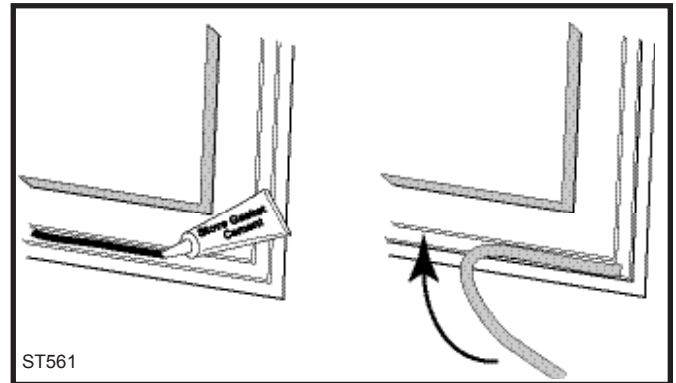

Fig. 34 Lay a bead of gasket cement then press gasket in place.
3. Determine the correct length of the appropriate-sized gasket by laying it out in the channel. Allow an extra 25-51 mm (1-2"), and mark the spot to be cut. (Fig. 34)
6. Starting at one end, press the gasket into the channel. (Fig. 34) Ensure a good joint where the gasket meets before trimming any excess. Do not overlap the gasket ends or leave ends with ragged edges.